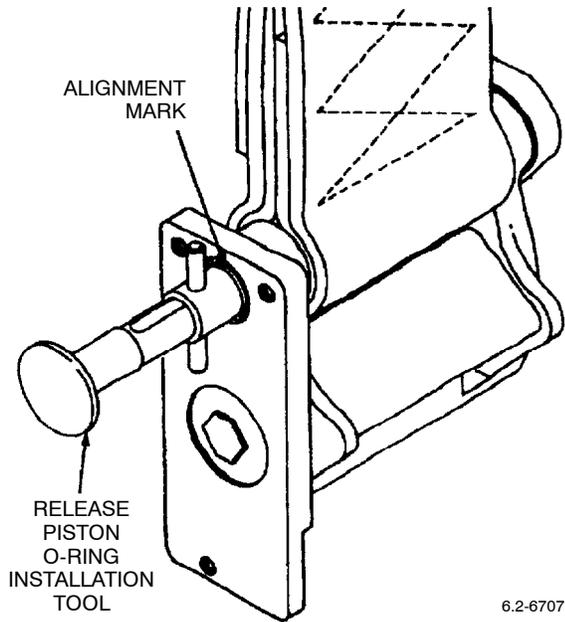

Figure 27. Rotate Back and Forth to Release O-Ring
(5) Use a rotating back and forth motion until release piston O-ring installation tool is inserted to full depth (even with alignment mark on tool) (Figure 27). (QA)